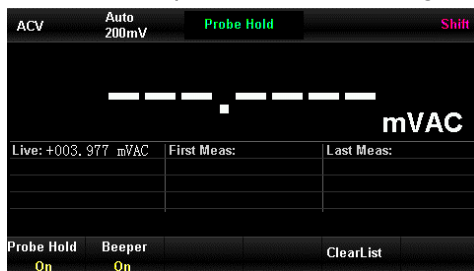

Figure 3-10 DCV Hold measurement
- 3) Press **Shift** → **Single** to enter the interface of Hold measurement. The DC voltage will be recorded as Figure 3-10.